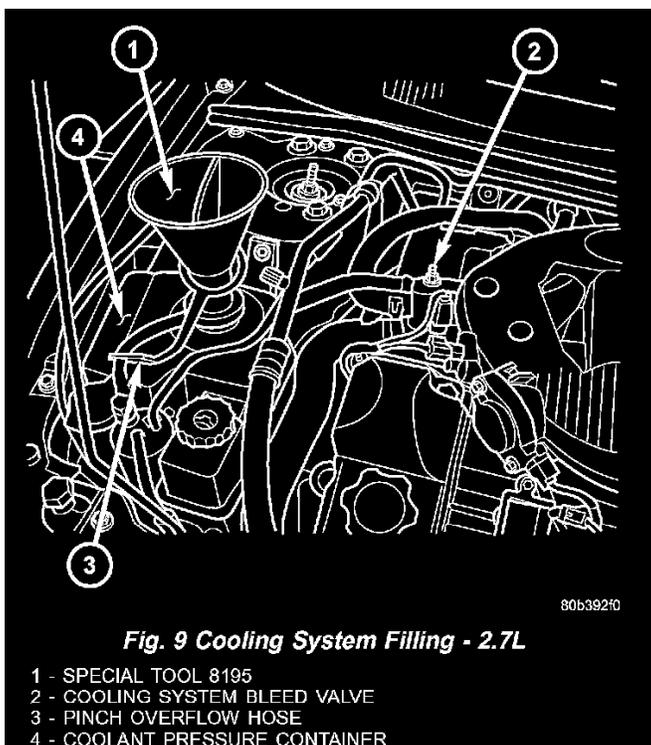

Fig. 9
2. Open cooling system bleed valve (Fig. 9).
5. Use the supplied clip to pinch overflow hose that connects between the two chambers of the pressure container (Fig. 9).